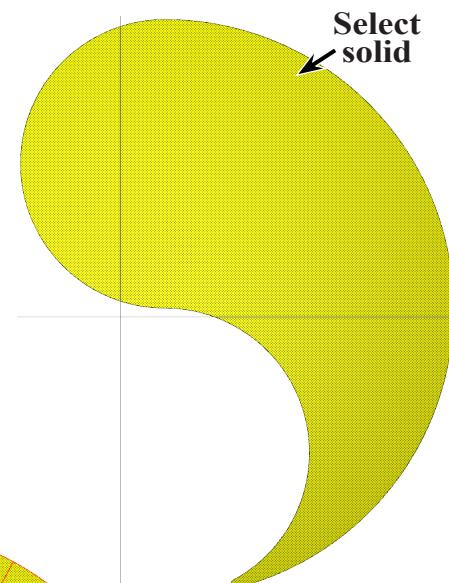

Fig. 43
Step 2. Click the **solid body** to select it and click **End Selection** (ENTER), Fig. 43.